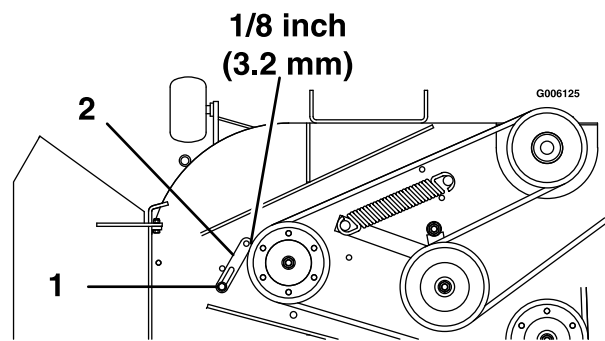

Figure 21
3. Note belt guide bolted to deck near the shield support stud and right-hand pulley. Guide should be 1/8 inch (3.2 mm) away from the belt, with bolt-end of guide near end of slot (Figure 21).